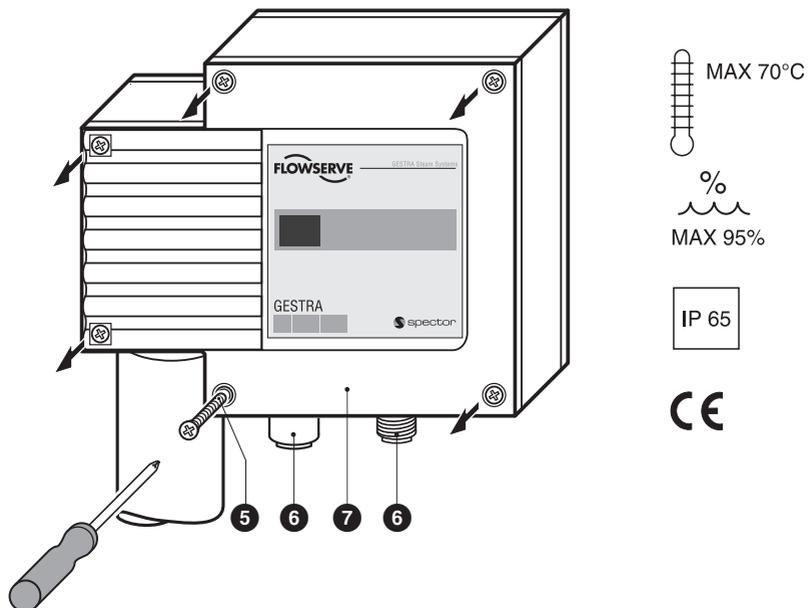

Fig. 5
1. Unscrew screws ⑤ and remove housing cover ⑦. **Fig. 5**